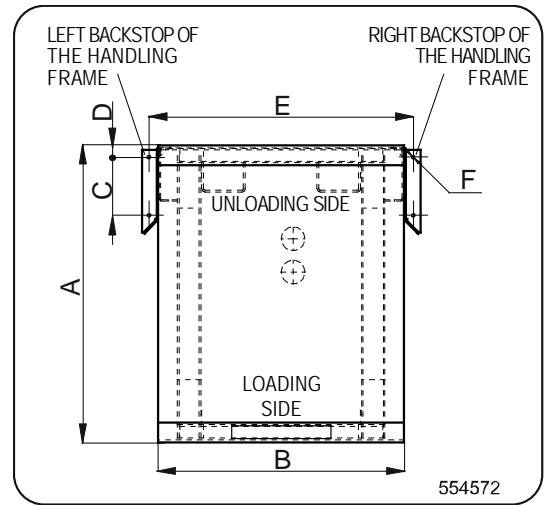

Figure 12
- The machines installed on a handling base may be placed in a row. There must be a minimum clearance of 150 mm / 5.9" between the machines. It is then possible to pull the machine out of the row, perform servicing and push it back into the correct position. The backstops anchored to the floor facilitate the return of the machine into the correct position – see Figure 12.